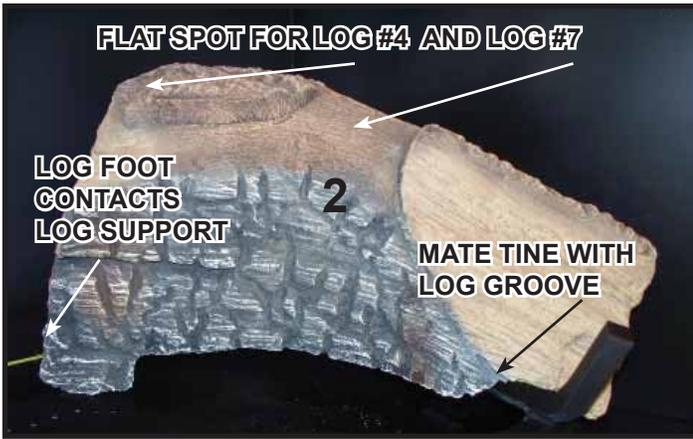

Figure 5. Log #2
**Log #2 (SRV2205-701):** Position Log #2 as shown in Figure 5. Mate the right grate tine with the log groove. Rest the back of the log on the log support. Rotate the back of the log clockwise until the foot contacts the vertical wall of the log support.